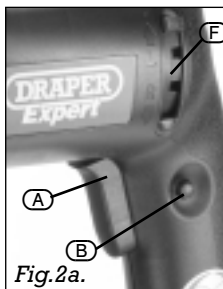

Fig.2a.
The switch (A) on both of these tools is fitted with a locking device, (B) allowing the tool to be operated for long periods of time without interruptions. (Figs.2a and 2b).
With the on/off switch (A) the speed can be continuously varied. With light pressure on the on/off switch (A) the machine begins to rotate slowly; with increased pressure, the speed increases. (Fig.2a).
Operate the rotational direction switch (F) only when the machine is at a standstill! (Figs.2a & 2b). Take hold of the rotational direction switch (F) on both sides.
**Right rotation:** Set the rotational direction switch (F) to "R".
**Left rotation:** Set the rotational direction switch (F) to "L".